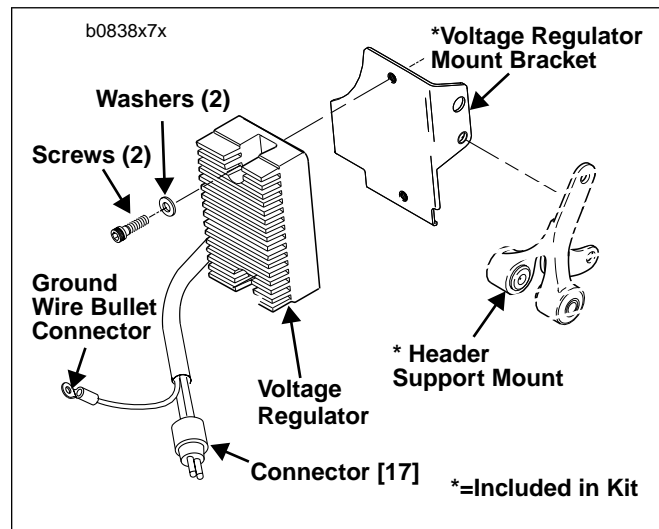

Figure 6. Voltage Regulator Revised Mounting
15. See Figure 6. Install voltage regulator.
- d. See Figure 6. Connect ground wire bullet connector to main wire harness.